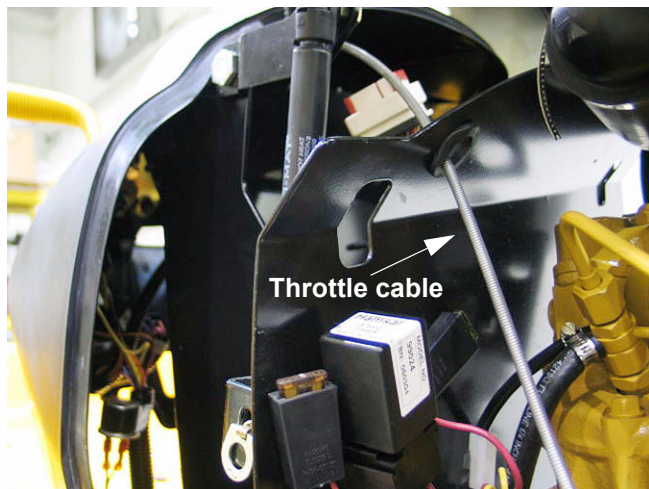

Figure 1.22
- 1.22. Route the control cables as the dash panel is lowered into place. The throttle cable passes through the grommated hole at the top right corner of the lower heat shield. See Figure 1.22.